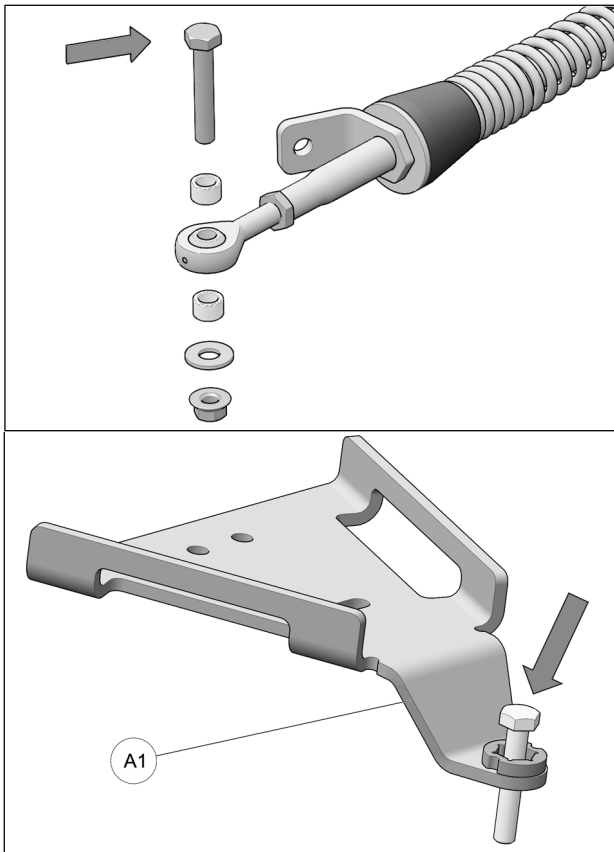

Fig. 10
5. Remove bolt, washer and bushings from front stabilizing rod end and insert bolt in front anchor bracket (A1) as shown in Fig. 10